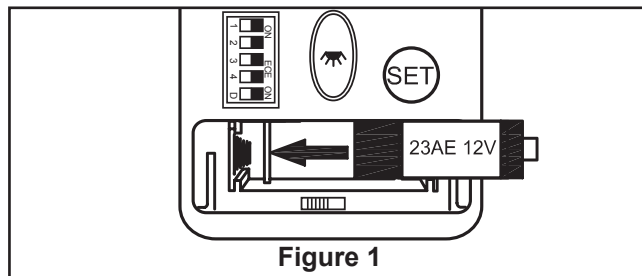

Figure 1
1. To make fan operational, remove the top panel then install 23A/12V battery (included) in wall control, with fan power off, arrange code switches to desired code setting. Then follow the remote code setting process. (If not used for long periods of time, remove battery to prevent damage to transmitter). Store the remote away from excessive heat or humidity (Figure 1).